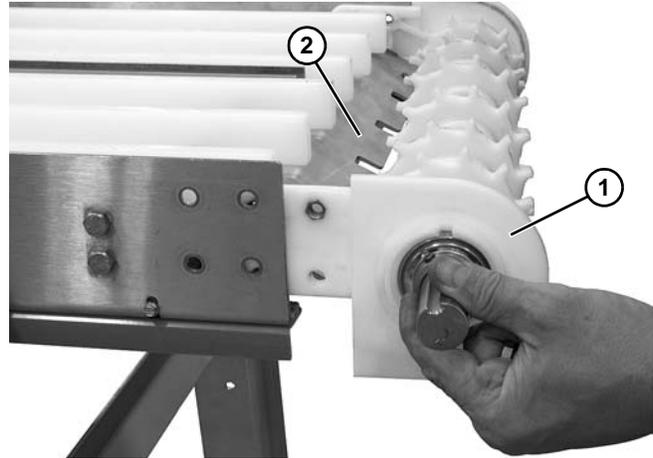

Figure 47
Support bracket (Figure 47, item 2) will not be attached and could fall.
5. Remove drive tail assembly (Figure 47, item 1).